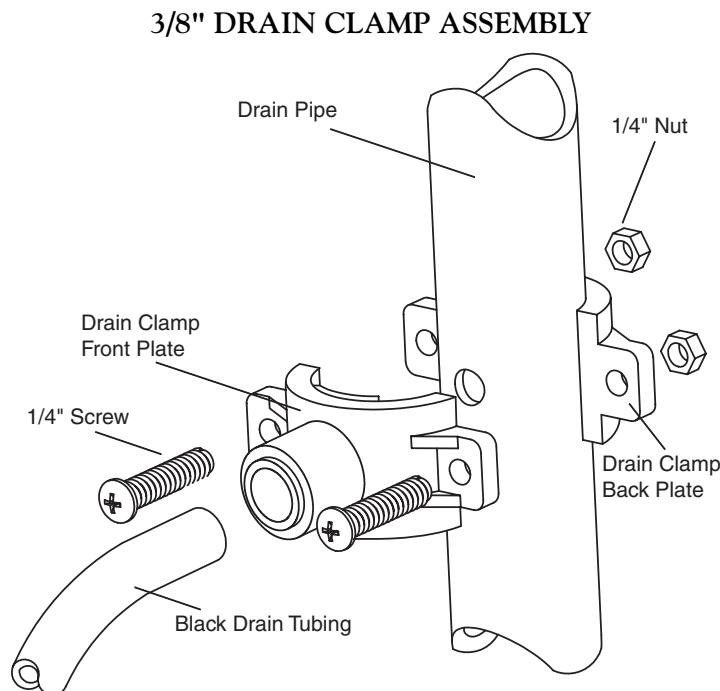

Figure 4
- Refer to Fig. 4, below. Insert the tubing into the Drain Clamp. Make sure the tubing is pressed all the way in to create a pressure tight connection.